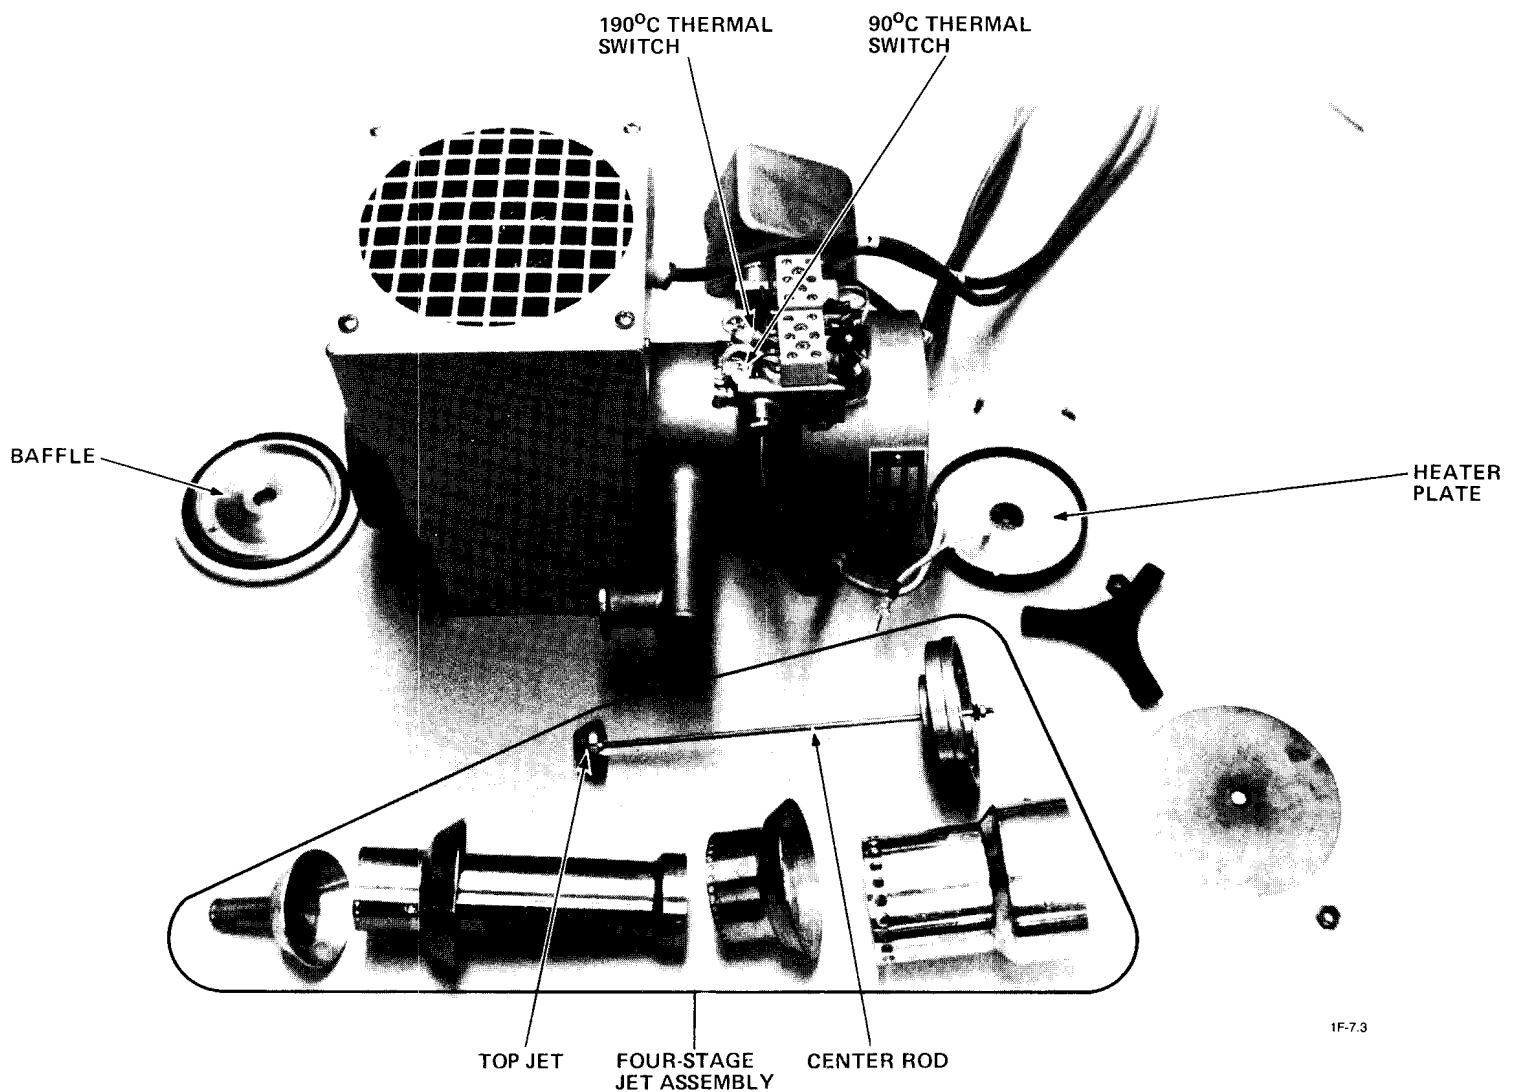

Figure 6-3 - Disassembled Diffusion Pump
3. Disassemble the diffusion pump as follows (see Figure 6-3).
Reassemble the jet assembly ensuring that the parts are seated concentrically, and that there are no gaps between the stages; tighten the small hex nut and washers onto the bottom of the center rod (see Figure 6-3).
- d. Ensure that the baffle, O-ring, and diffusion pump inlet are clean and then place the baffle onto the diffusion pump inlet flange so that the convex side faces up (see Figure 6-3).